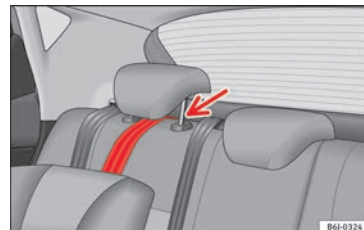

Fig. 25 Retainer strap: correct adjustment and fitting.
- Guide the strap under the rear seat head restraint » Fig. 25 (lift the head restraint where necessary).